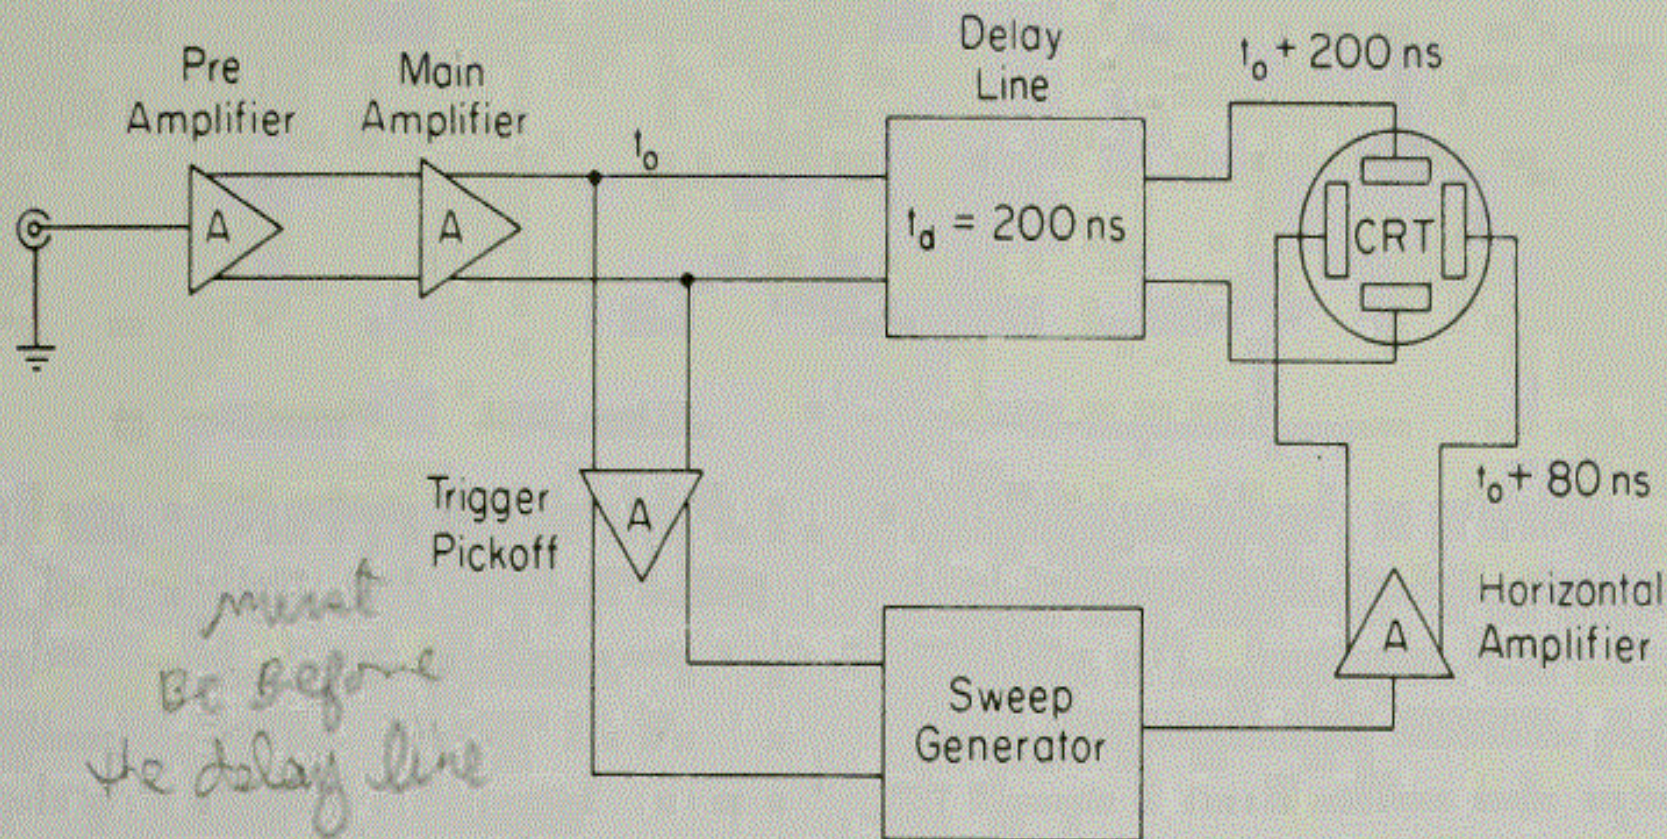

Figure 7-22 Delay of the vertical signal allows the horizontal sweep to start prior to vertical deflection.
- Comparing the vertical and horizontal deflection circuits in the oscilloscope block diagram of Fig. 7-22, we observe that the horizontal signal (time base, or sweep voltage) is initiated, or triggered, by a portion of the output signal applied to the vertical CRT plates.
- This is the function of the vertical delay line. We observe that in Fig. 7-22 a 200-ns delay line has been added to the vertical channel, so that the signal voltage to the CRT plates is delayed by 200 ns, and the horizontal sweep is started prior to the vertical deflection. Although the